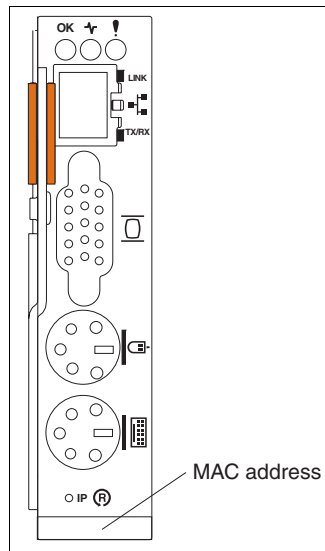

Figure 4-3 MAC address of BladeCenter management module
2. If there is no response from a DHCP server within two minutes, the management module will use the default IP address 192.168.70.125 with subnet mask 255.255.255.0. The host name will be MMxxxxxxx, where xxxxxxxx is the MAC address of the management module. The MAC address is printed on a label in the lowest position, as shown in Figure 4-3.